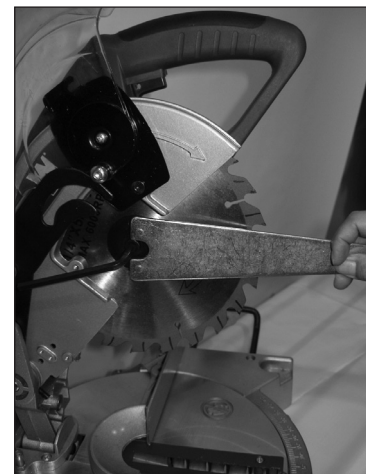

Fig. 8
5. Use the wrenches to loosen the Arbor Bolt by turning it clockwise. (Fig. 8)